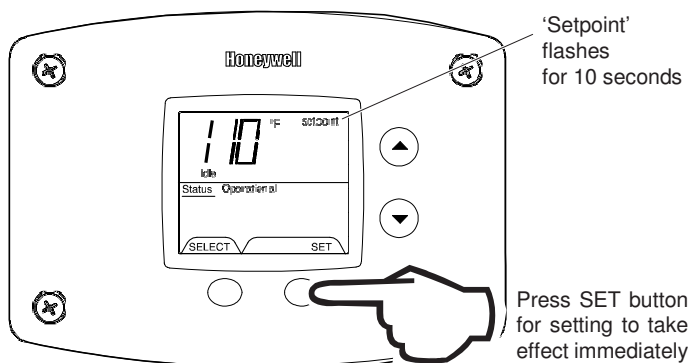

Fig. 18
3. Press 'SET' button for new setting to take effect immediately. 'Setpoint' will stop flashing. If the 'SET' button is not pressed, the new temperature setting will take effect in approximately 10 seconds (Fig. 18).